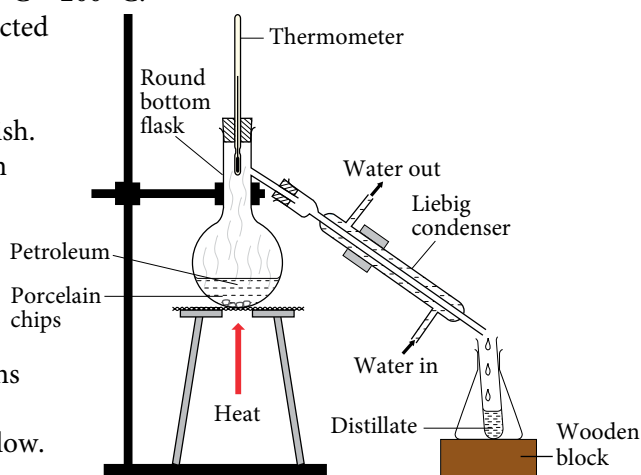

Figure 2.4
3. Set up the apparatus as shown in Figure 2.4.